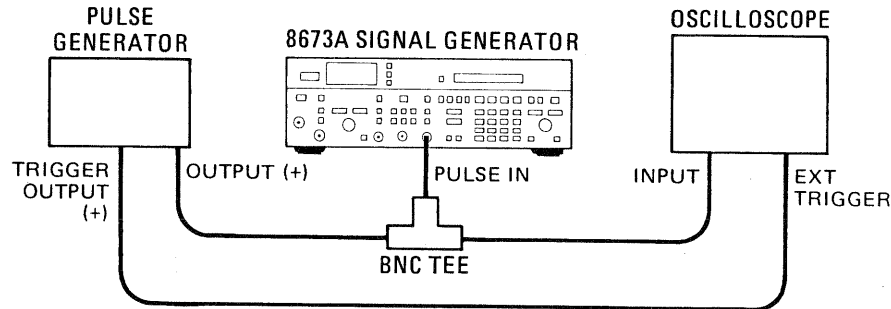

Figure 3-10. Pulse Modulation Functional Check Setup
38. Connect the pulse generator and oscilloscope to the Signal Generator as shown in Figure 3-10.